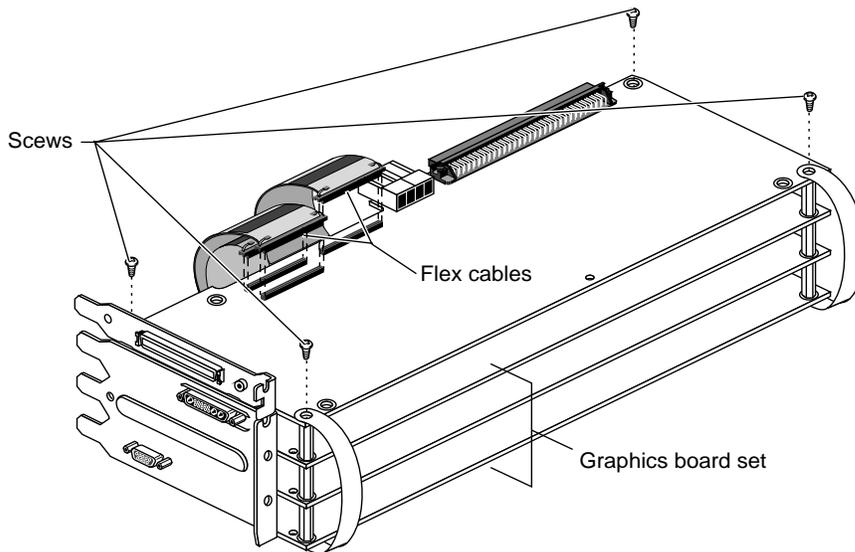

Figure 1-18 Removing an Option Board From the Graphics Board Set
2. If there is another board attached to the graphics board set, remove it by detaching the cables, screws, and pull straps and lifting it off the board. See Figure 1-18.